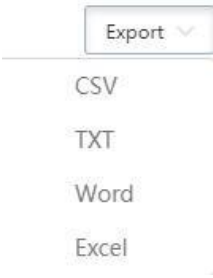

Figure 5-23
Step 2: Click "Export", choose the format of the exported document, such as "Word", as shown in Figure 5-23 below.